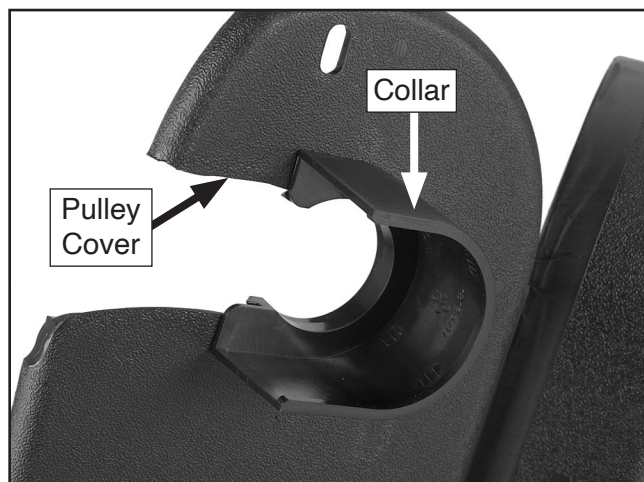

Figure 23. Collar installed.
2. Slide collar into interior of pulley cover until it clicks to secure (see **Figure 23**).